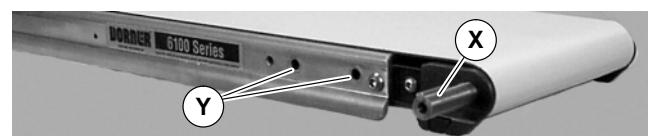

Figure 5
3. Locate drive output shaft (X of Figure 5) and remove two (2) screws (Y).